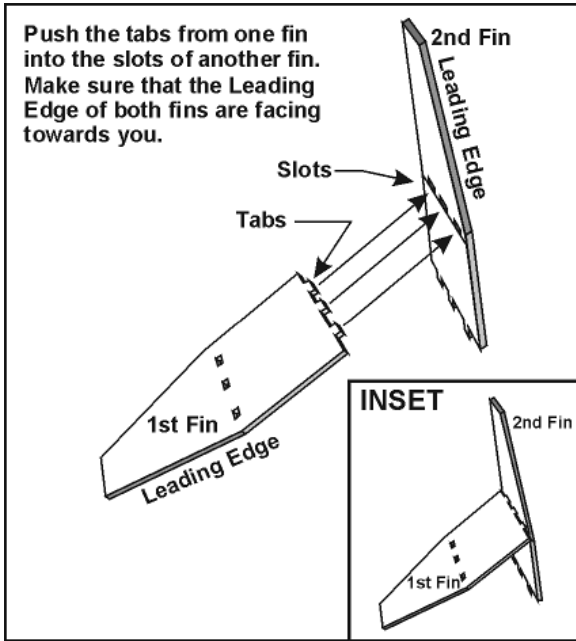

Figure 9
- 9. Referring to **Figure 9**, connect the first two fins together as shown. The **INSET** drawing in the lower right shows you what your fins should look like connected together.